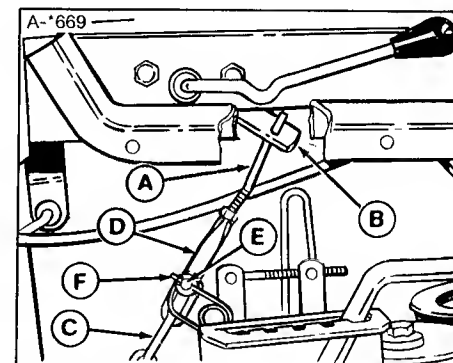

Figure 2. Lift Assembly
5. Place the lift lever fully forward so that lift arm (B, figure 2) is in lowest position.
6. Slide the mower under the tractor so that the lift chain (C, figure 2) is under the lift arm (B).
7. Insert the link (A) into lift arm (B) then pivot back and down. Secure chain (C) to clevis (D) with pin (E) and clip (F). (Early models are equipped with a simple hook instead of clevis assembly shown in figure 2.) If chain has four links, be sure to use only three links.
4. Unhook the lift chain (C, figure 2) from the clevis (D).